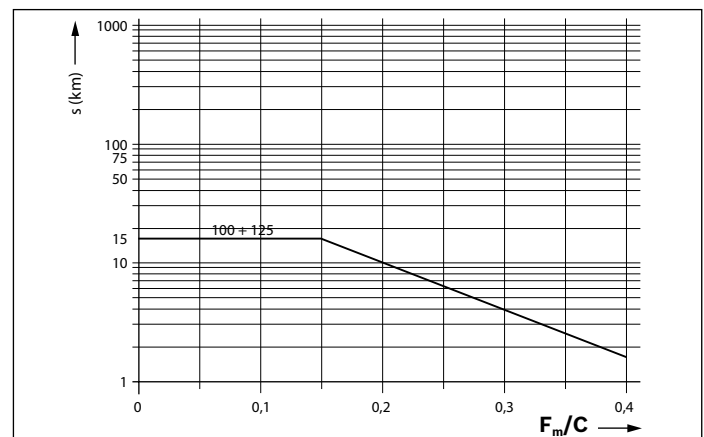

Fig. 18
- ▶ Apply the minimum quantity according to table 15 at the lube connection until the relubrication interval (figure 18) has been reached.
The lubricating cycle time is then the result of dividing the relubrication interval (according to figure 18) by the determined number of pulses.